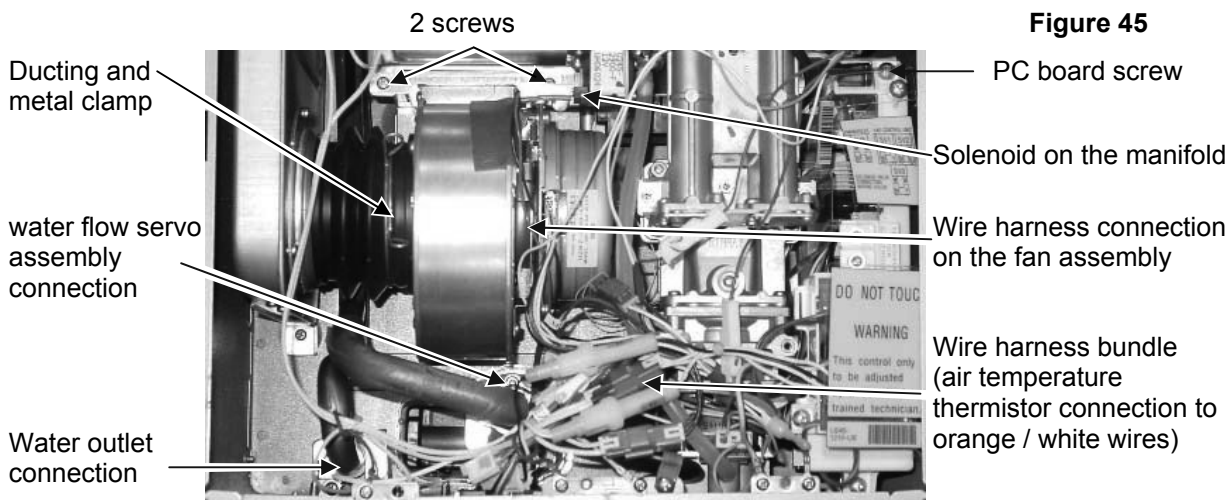

Figure 45
Remove Fan Assembly (Figure 45)
Disconnect Water Lines and PC Board (Figure 45)
26. Install the O-ring (included in kit) over the water outlet tube and the O-ring (included in kit) over the water flow servo tube. (Figure 45)
Connect Water Lines (Figure 45)
Install Fan Assembly (Figure 45)